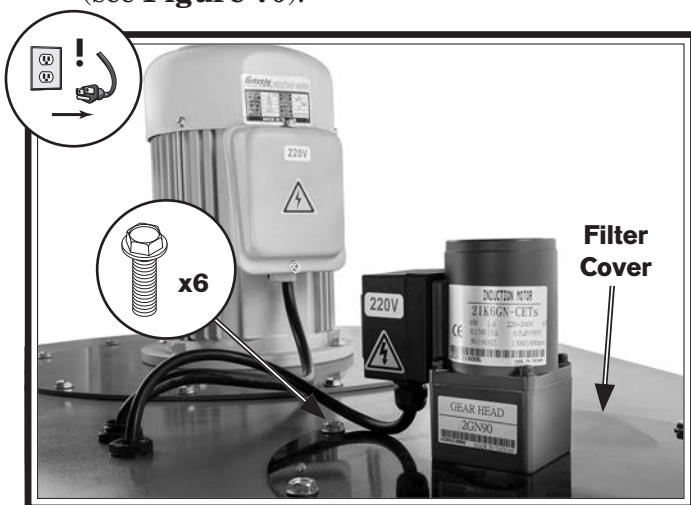

Figure 70. Filter cover.
3. Remove (6) flange bolts and filter cover assembly from top of assembly housing (see **Figure 70**).